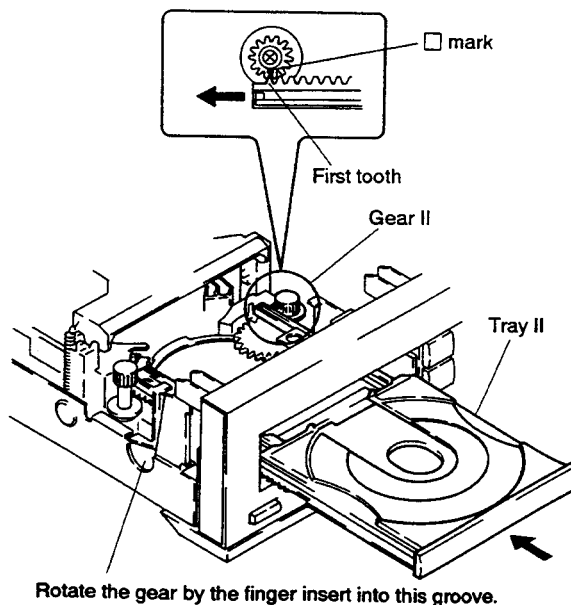

Fig. 2-15
Note 1: When opening the tray II manually, insert a finger into the groove shown in Fig. 2-15, and fully rotate the idler gear counterclockwise. (As for the idler gear, refer to Fig. 1-1)
- (2) As shown in Fig. 2-15, adjust the □ mark on the gear II to the first tooth of the tray II, then push in the tray II slowly.
Note: When opening the tray I manually, insert a finger into the groove shown in Fig. 2-15, and rotate the idler gear clockwise, and tray II is clamped.